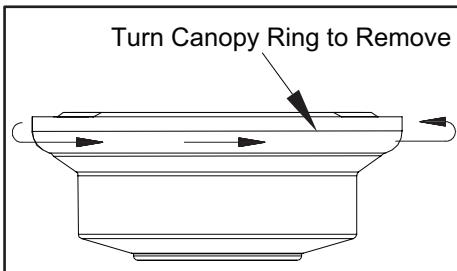

Figure 8
1. Remove the canopy ring from the canopy by turning the ring counter-clockwise until it unlocks. (Figure 8)